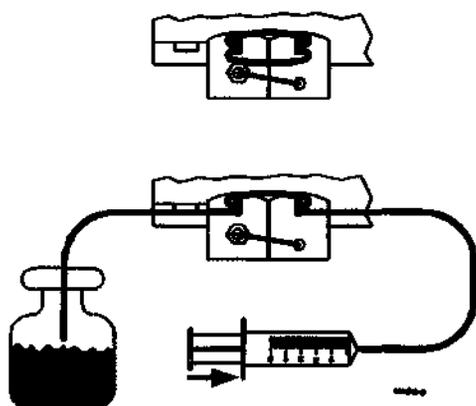

Fig. 8: Piston seal rear flushing (from above)
- Unfasten the upper silicone tube that connects the two pump heads and attach the free end to the plastic syringe (supplied with accessories) filled with rinsing liquid. You can also use a longer silicone tube (see fig. 8).